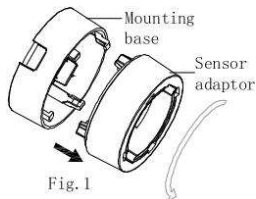

Fig. 1
(1) Take out the KNX Presence/Motion Sensor Ceiling Adapter and rotate the sensor adaptor counterclockwise to separate the sensor adaptor from the mounting base. As shown in Fig. 1.